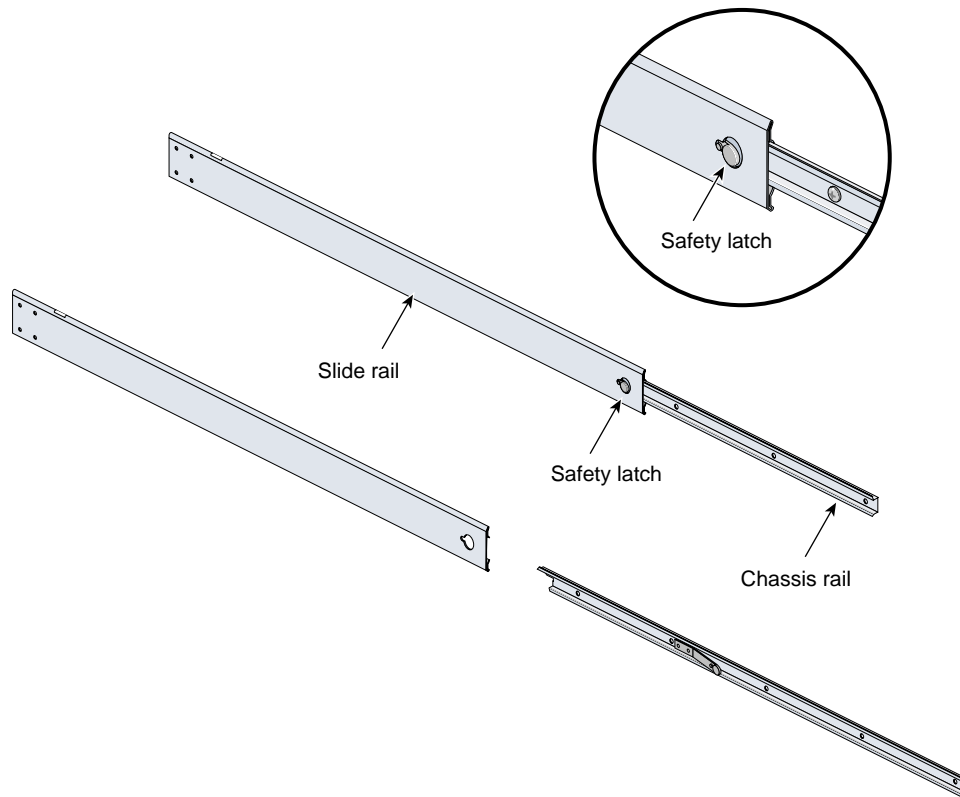

Figure 1-12 Removing the Chassis Rail from the Slide Rail
3. Press the safety latch and remove the chassis rail from the slide rail, as shown in Figure 1-12.